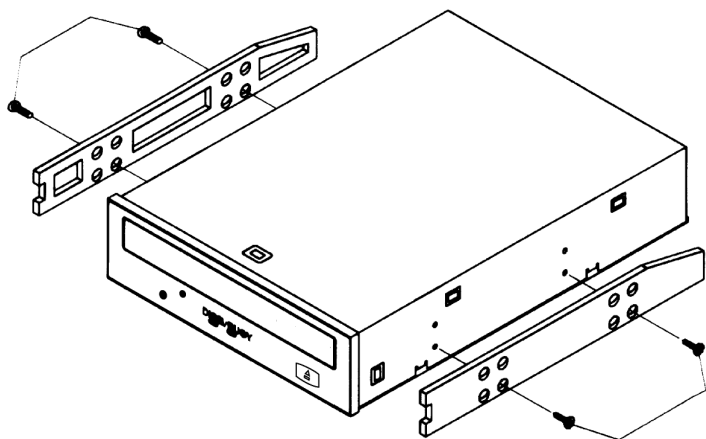

Figure 14: Installing mounting rails (if needed)
5. If you must use mounting rails, fasten the rails to the lower pair of holes as shown in Figure 14. (In some instances, you may need to fasten the rails to the upper set of holes.) After fastening the rails, check their positioning by sliding the drive into the bay before you mount the drive or connect any cables.